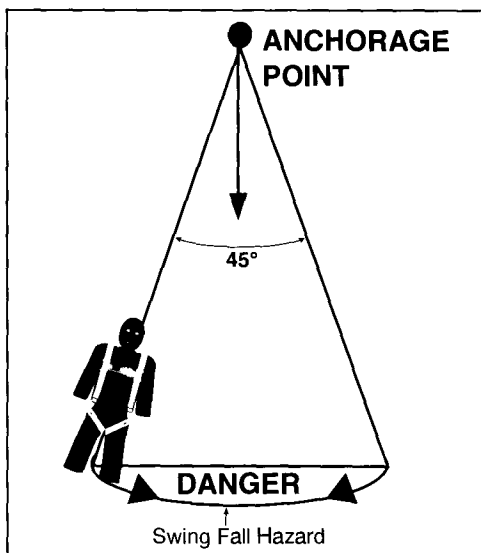

FIGURE 1
4. Never pre-engage the locking mechanism or knot the webbing to use as a restraint tool. A potential swing fall hazard would then exist. (Figure 1)